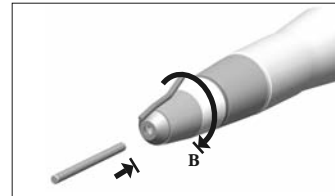

fig. 3
B: locking fig. 3
- Insert a bur in the chuck mechanism of the instrument (fig. 3).